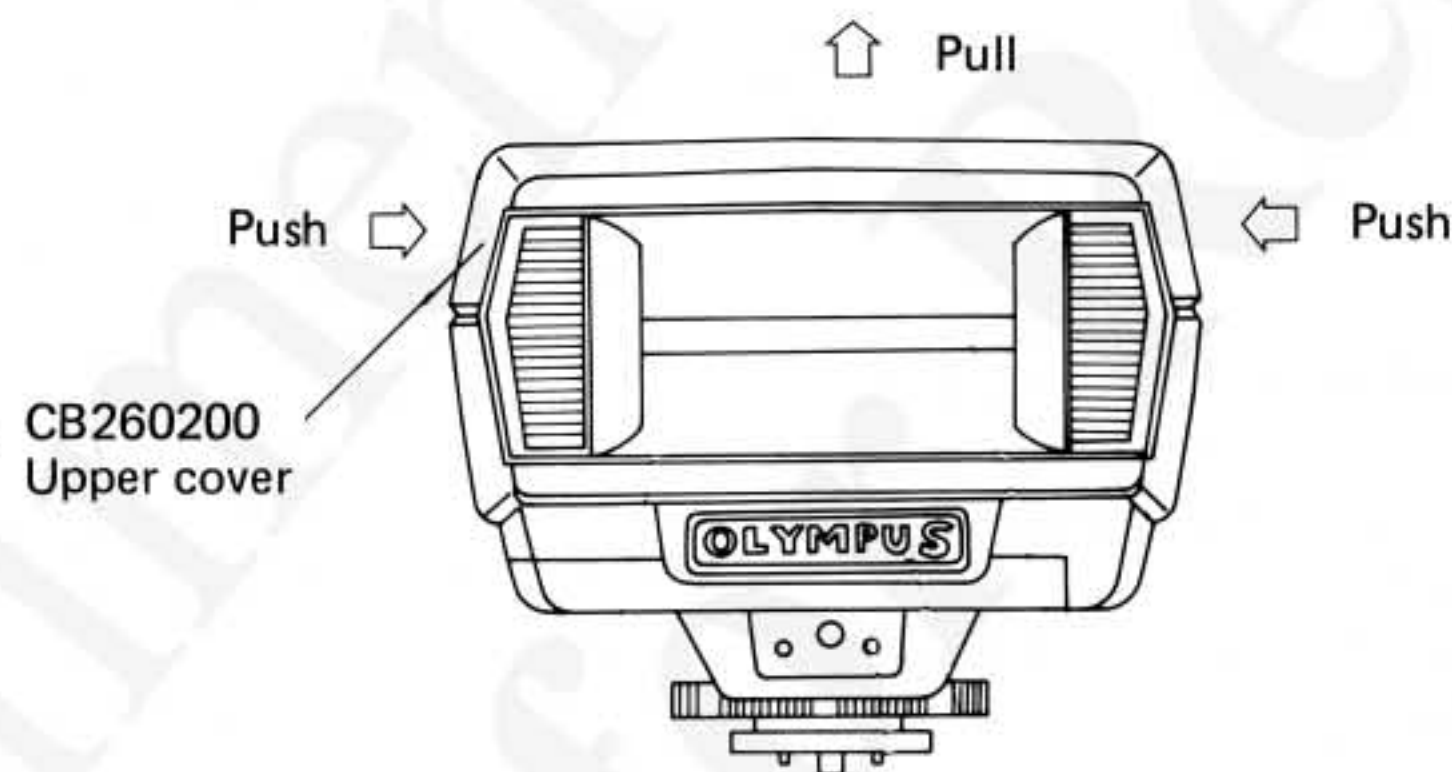

Fig. 2
- 3) Lightly push the side of the upper cover (CB260200) and remove it. Fig. 2